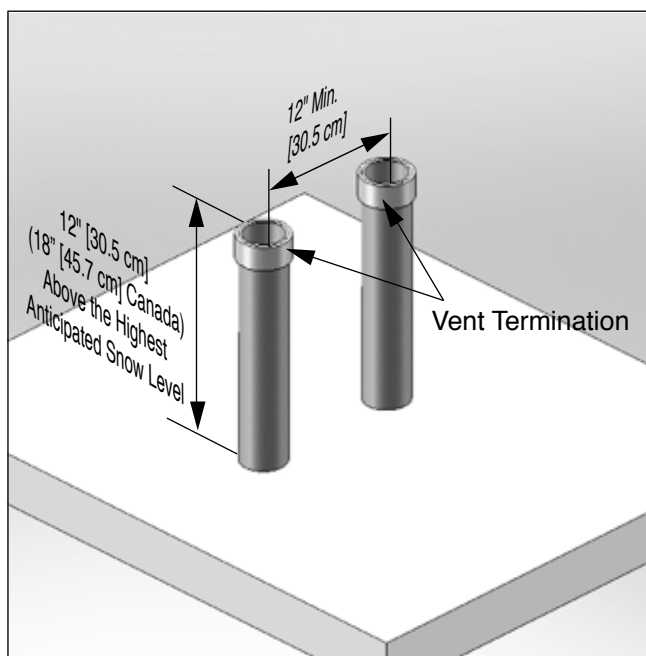
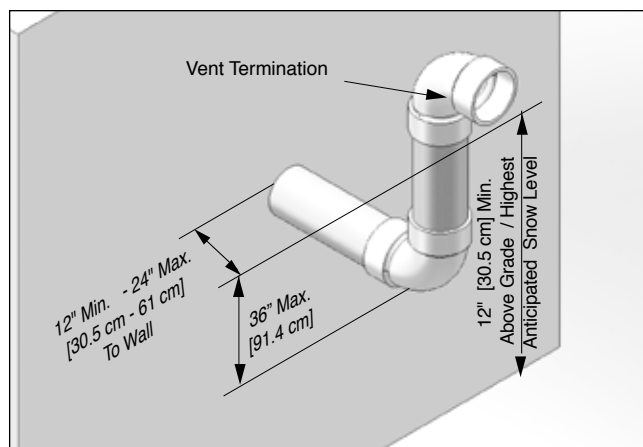

Fig. 17 - Category IV- Vertical Termination of Multiple EXALT Boilers
Fig. 19 - Category IV - Sidewall Snorkel Termination of Vent Pipe
2. Each vent termination must be a minimum 12" [30.5 cm] from the adjacent termination for installations in the U.S. as shown in **Fig. 17 below**. For installations in Canada, provide clearances as required by CAN/CSA B149.1.
- Using a 90° elbow as shown in *Fig. 19*.
3. Locate the vent pipe penetration to provide clearances as described in *Fig. 17 on page 26* and *Fig. 19 on page 27*.
- Using a 90° elbow as shown in *Fig. 19 on page 27*.
Do not extend the vent pipe outside the sidewall beyond the dimensions shown in *Fig. 17 on page 26* and *Fig. 19 on page 27*. Extended exposure of the vent pipe could cause condensate to freeze and block the vent pipe, resulting in substantial property damage, serious injury, or death.
- *Fig. 19 shows one option for vent terminations of multiple EXALT boilers. Either termination option shown in Fig. 17 on page 26 or Fig. 19 on page 27 can be used for multiple EXALT boilers. The 12" [30.5 cm] minimum distance between centerlines of the vent piping must be maintained for any chosen option.*
- *Reference Fig. 17 on page 26 and Fig. 19 on page 27 for vent termination dimensions for each unit installed in a multiple installation.*